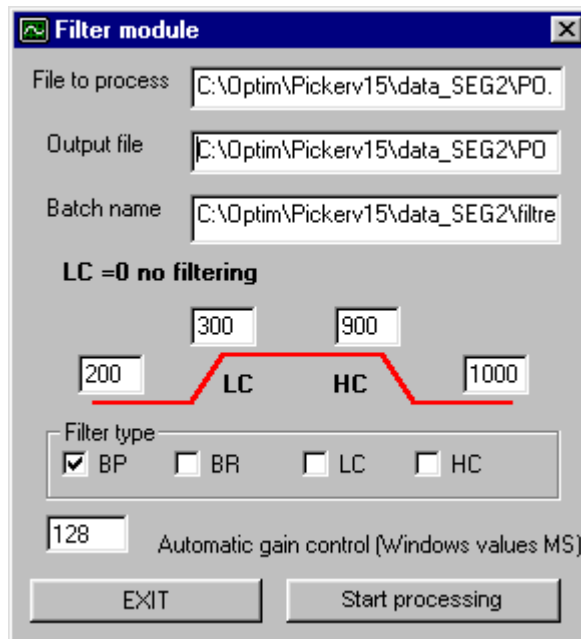

Figure 19: Perform AGC and filtering on the data
Now, perform AGC/Filter by choosing this option, present under the "Utility" menu under "Processing". The dialog box shown in Figure 19 opens up. By default, the file after AGC and/or filtering is written to the same directory as the input, SU format file and has ‘_flt’ appended to the file name. Note that the output file name is also in SU format and to see the result of the processing, this file has to be loaded (see **Section 4.0**) into SeisOptPicker GUI. Double clicking in the box next to ‘Output file’ and choosing the desired location and name can change the default output directory and filename. If one wishes to perform only filtering and not an AGC, delete the value in the ‘Automatic gain control’ box. If this value is set to 0, SeisOptPicker performs trace equalization. SeisOptPicker filtering module allows for 4 kinds of filter, namely, band pass (BP), band reject (BR), low cut (LC), and high cut (HC). The appropriate frequency values can be specified next to the appropriate boxes. To not perform any filtering, set the value of LC to 0. For AGC, it is recommended to choose a large time window (1/3 to 1/2 the total time).